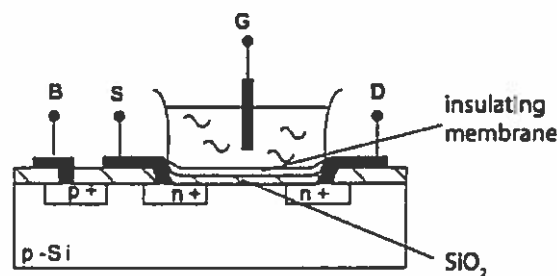

Figure 3.1
b) Figure 3.1 shows an Ion-Sensitive Field Effect Transistor. The threshold voltage of the device is modulated by a pH dependent potential described by: